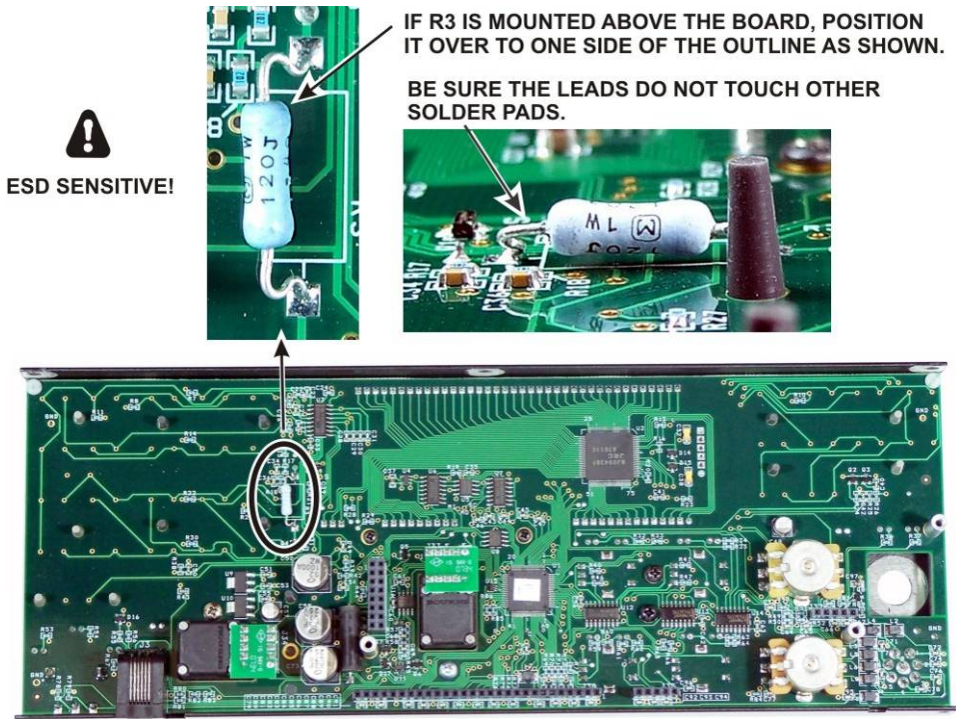
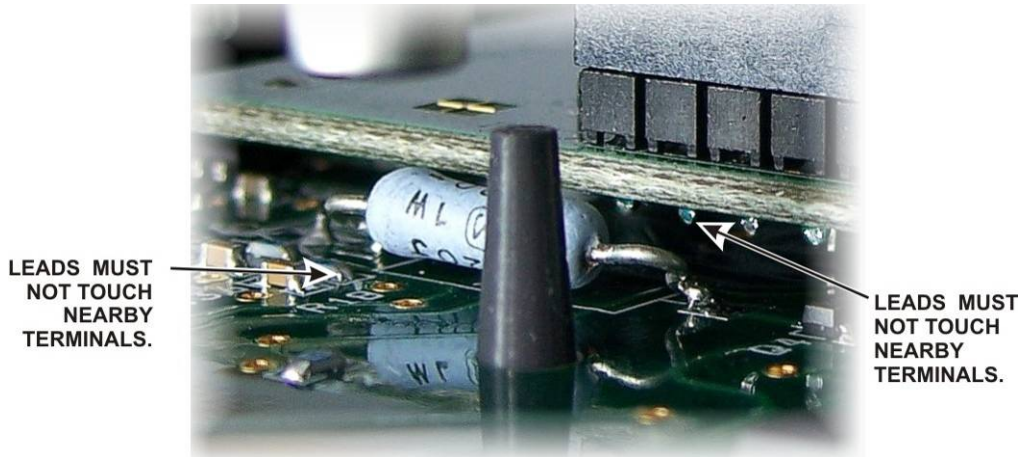

Figure 25. Positioning R3 on the Front Panel Board.
Figure 28. Checking the Position of R3.
☐ Locate resistor R3 on the front panel board (mounted on the front panel). If R3 is positioned above the board on its leads as shown in Figure 25, push it over to one side of the outline as shown. Be sure you don't push it so far its leads might touch the solder pads for other components on the board.
□ If you installed the Auxiliary DSP board for the KRX3A and adjusted the position of resistor R3 as shown in Figure 25, look between the DSP boards and the front panel board to verify that the leads are not touching any terminals on either the aux DSP or front panel boards (see Figure 28). If necessary, unplug the DSP board assembly and adjust the position of R3 to ensure the leads are clear of other solder pads before proceeding.